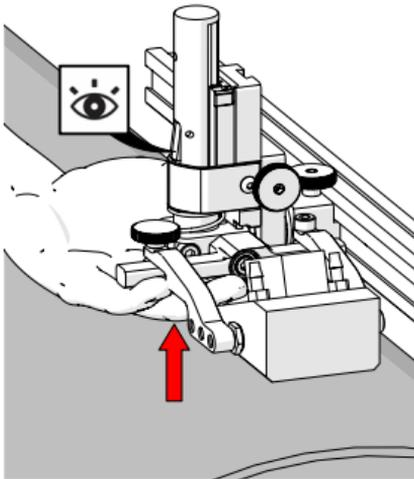
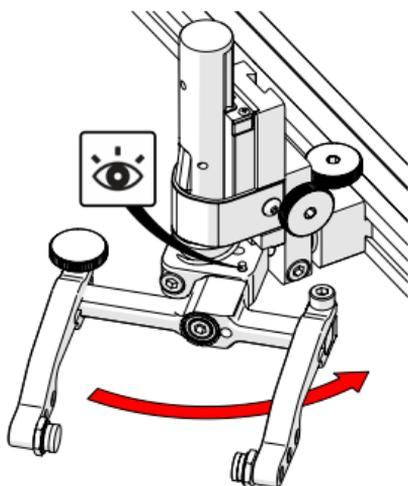

Fig. 70 - Latch probe holder
Fig. 76 - Stop post locates 90°
1. Ensure the probe holder is in the latched, upper position. Lift the probe holder until the latch is fully exposed and snaps out to lock (Fig. 70).
1. Ensure the probe holder is in latched, upper position (Fig. 70).
To return the transverse adjustment to neutral (90°). The probe holder must be in the latched, upper position (Fig. 70). Rotate the yoke until the stop post contacts the base of the probe holder (Fig. 76). Then tighten the transverse adjustment screw.
1. Ensure the probe holder is in the latched, upper position (Fig. 70).